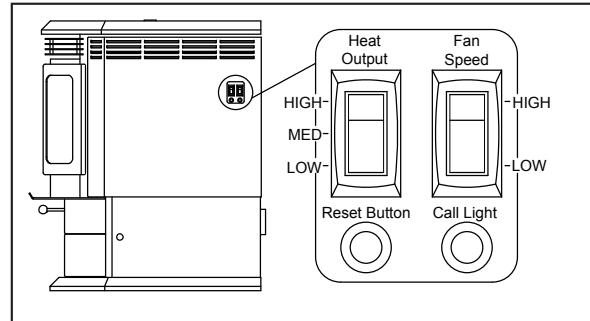

Figure 23.1
- Occasionally the appliance may run out of fuel and shut itself down. When this happens, the red call light will be on. To restart it, fill the hopper and press the reset button. (**See Figure 23.1, page 23**). When you press the reset button the red call light will go out. Release the button and the light will come back on. You should see a fire shortly. If not, follow the instructions on **page 24**, of "Starting Your First Fire".